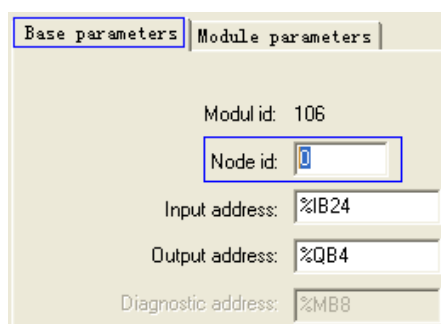

Figure 11.24: Setting of LK651 Communication Address
- As shown in Figure 11.24, the correct communication address shall be re-assigned for each high-speed module in the “NodeID” field of “Basic Parameter”. Other parameters keep their default value and do not need modification.